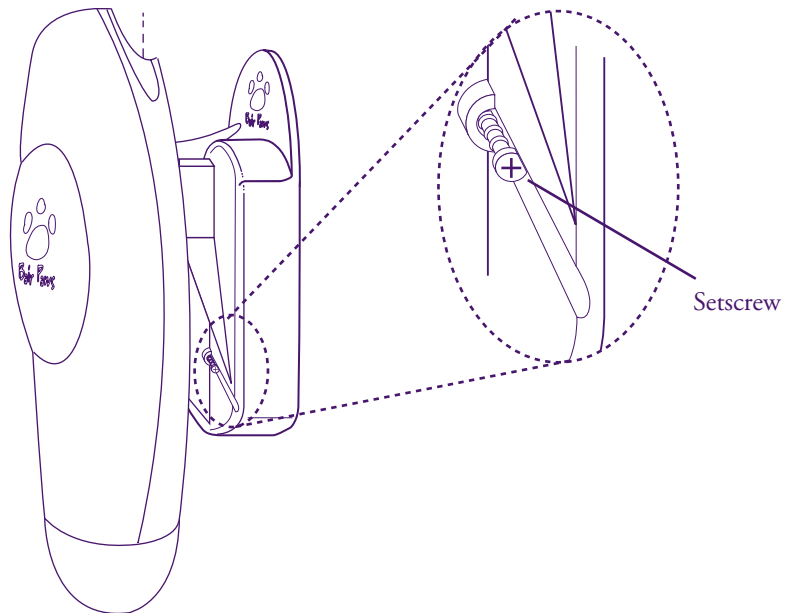

Figure 2. Side view of warming unit in the wall-mount bracket.
2. Tighten the 2 setscrews located on either side of the wall-mount bracket using a three-inch-long (or longer) small Phillips screwdriver to lock the unit in place (see Figure 2).
4. Tighten setscrews as shown in Figure 2.
2. Tighten the setscrews (see Figure 2).